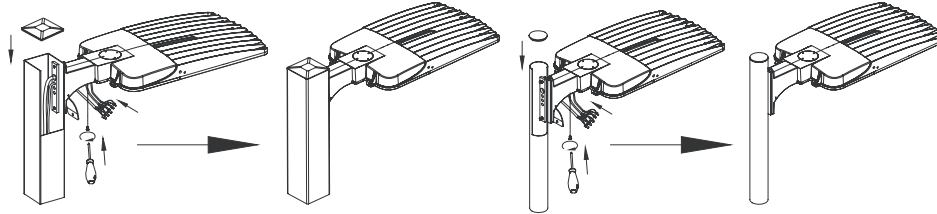

Figure 6.2
6.2 Push the connected wires into the PM bracket junction box. Close the box cover by tightening the fixing screws. Close the pole's top cover as per Figure 6.2.